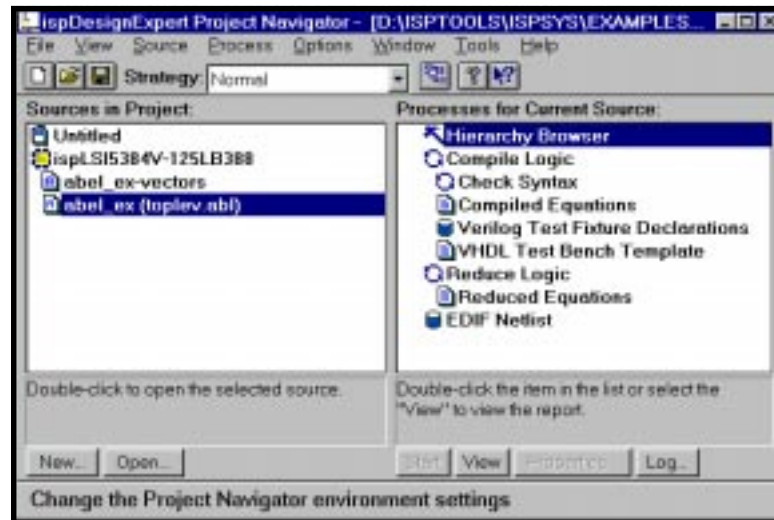

Figure 3-2. Project Navigator Window with \*.abl File Imported
4. Click **OK**. The selected ABEL-HDL file appears in the Sources in Project list of the Project Navigator as shown in Figure 3-2.